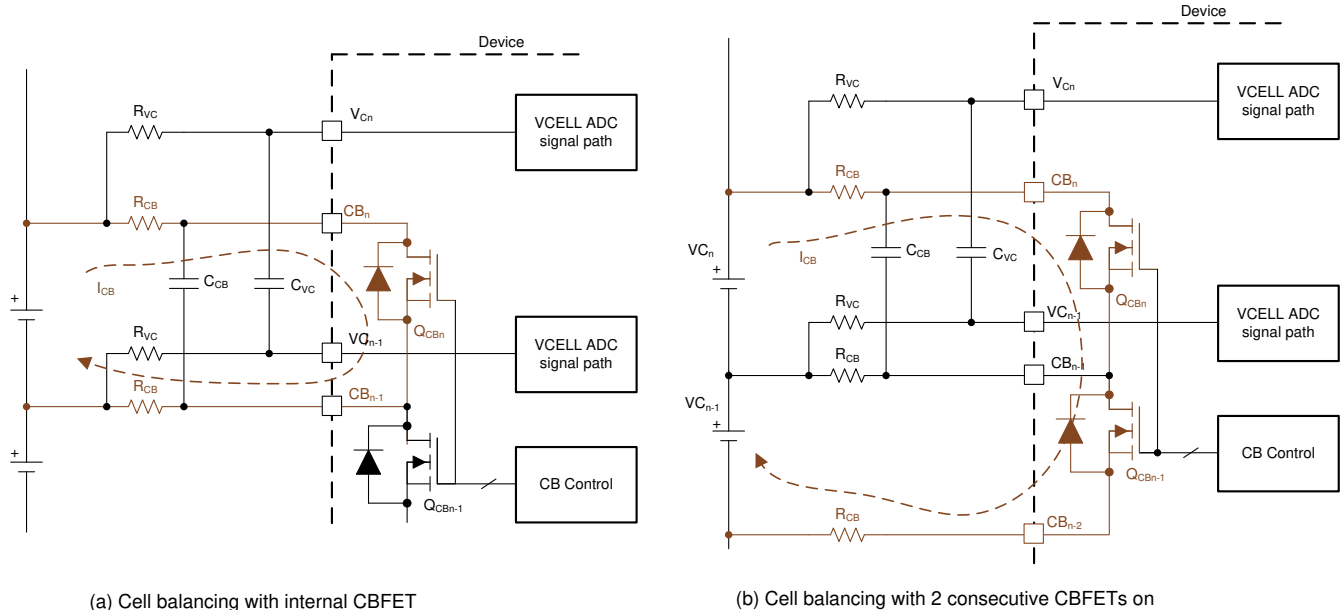

Figure 8-13. Internal Cell Balancing and the Flow of Balancing Current
- Balancing with no consecutive CBFET on (Figure 8-13 (a)): $I_{CB} = V_{Cell} / ((2 \times R_{CB}) + R_{DS(on)_{QCB}})$
- Balancing with two consecutive CBFETs on (Figure 8-13 (b)): $I_{CB} = (\text{Sum of two } V_{CELL}) / ((2 \times R_{CB}) + R_{DS(on)_{QCBn}} + R_{DS(on)_{(QCBn-1)}})$
- Manual balancing control ($[AUTO_BAL] = 0$): With this method, the device will turn on the CBFETs that have non-zero balancing timer settings once $[BAL_GO] = 1$ is received. There is no odd and even channel switching during the cell balancing and the $BAL_CTRL1[DUTY2:0]$ setting does not apply under this control. Host MCU can enable two consecutive CBFETs with this method and a maximum of eight CBFETs can be enabled. When two consecutive CBFETs are enabled with both channels connected to battery cells, the balancing current is significantly different compared to no adjacent CBFET being on (Figure 8-13). The $DEV_CONF[NO_ADJ_CB]$ bit is provided to avoid inadvertent enabling of an adjacent CBFET for a system that is not intended to have an adjacent channel on for balancing. In this control method, the device is relying on the MCU to enable the proper channels. If the MCU sends $[BAL_GO] = 1$ but the CBFETs are enabled with an invalid condition, the device will not start balancing and will set $BAL_STAT[INVALID_CBCONF] = 1$. Invalid configurations are either: